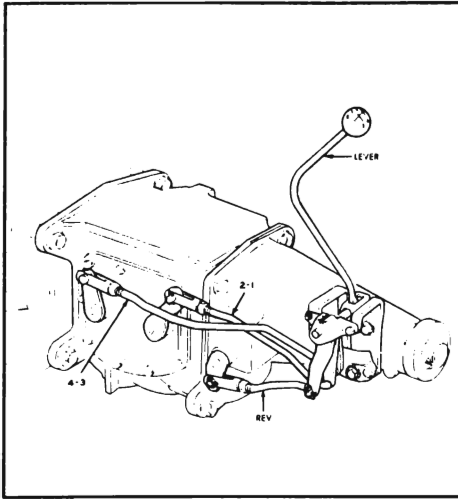

Figure 4-50—Four Speed Transmission Gearshift Linkage
2. Disconnect first, second, third and fourth shift rods from levers. See Figure 4-50.